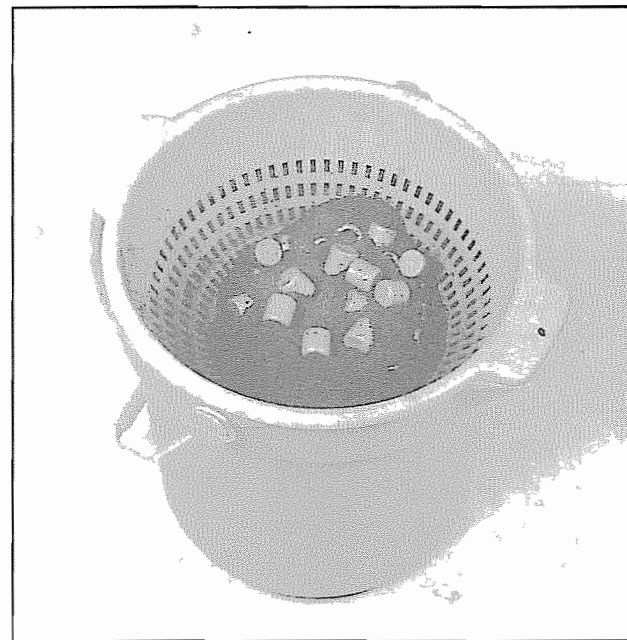

Figure 7-19. The milled coal or charcoal is sifted from the pellets with a bucket and a kitchen colander.
3. Open the mill, dump the contents into a plastic colander or a stainless steel french fry basket, and sift the finished product into a moistureproof container (**Figure 7-19**). In the pages that follow, and in all the propellant formulas, I call this fuel **12 hour anthracite**.
4. Open the mill, dump the contents into a plastic colander or a stainless steel french fry basket, and sift the finished product into a moistureproof container (Figure 7-19). In the pages that follow, and in all the propellant formulas, I call this fuel 6 hour mesquite charcoal.
2. Open the mill, dump the contents into a plastic colander or a stainless steel french fry basket, and sift the finished product into a moistureproof container (Figure 7-19). In the pages that follow, and in all the propellant formulas, I call this fuel 6 hour garden charcoal.